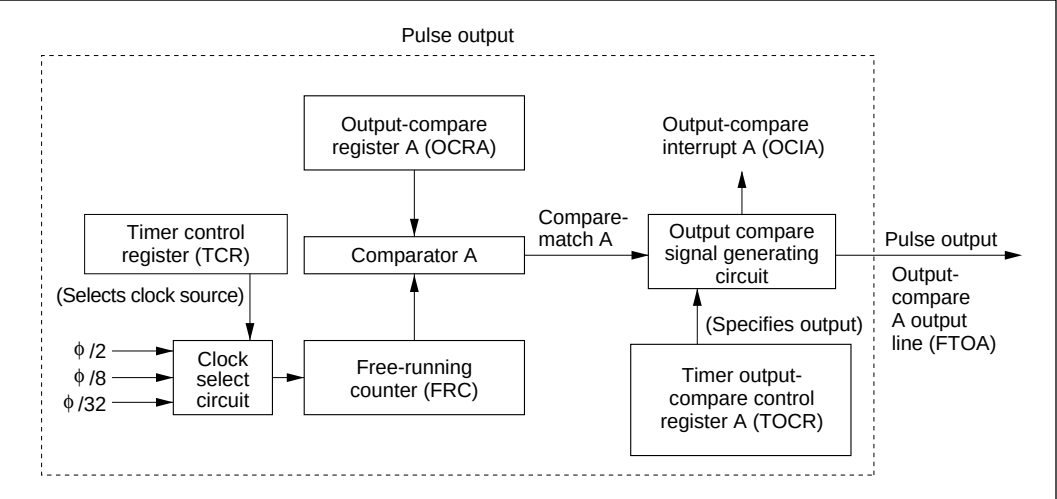

Figure 2 16-Bit Free-Running Timer Block Diagram
1. Figure 2 shows a block diagram of the 16-bit free-running timer used by this sample task. The 16-bit free-running timer has the following function:
This task uses the preceding function for pulse output as shown in figure 2.